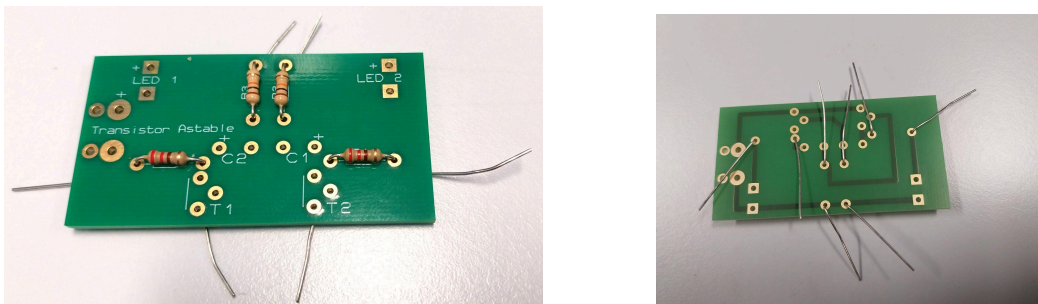

Figure 46: Putting resistors on the board.
Step 1: Locate the fixed resistors (R1 and R4 are 220Ω , R2 and R3 are $10k\Omega$) by using colour code or checking using a multimeter. Place them through the correct holes in the PCB board. If you do the resistors first, you should be able to hold on to the legs as you turn the board upside down and put the resistors flat on the table. You could then solder the resistors straight away, or fold the legs over as shown in Figure 46. Folding the legs over has the benefit of keeping the resistors in place as you solder them, but more care must be taken to not let the legs touch after they have been snipped short.